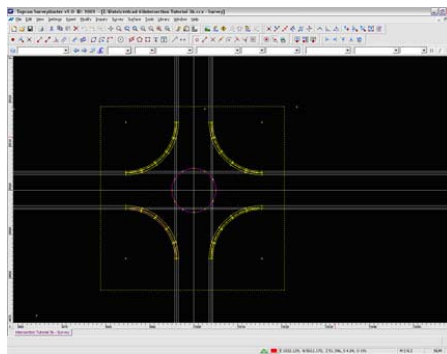

Figure 13-59. Select the Intersection
1. Drag a rectangle around the intersection, selecting the strings you want to merge (Figure 13-59).